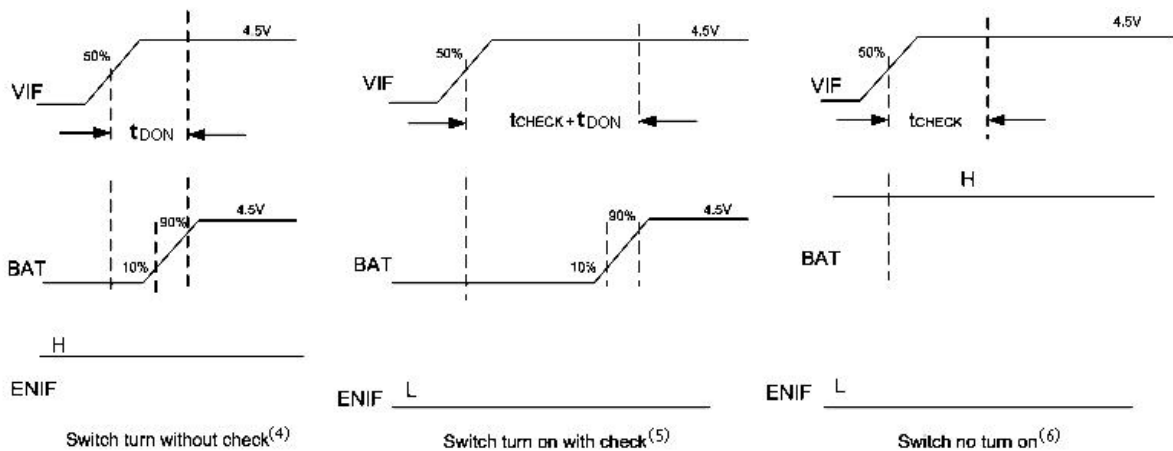

Figure 5
3. t_{CHECK} are defined in figure 5.